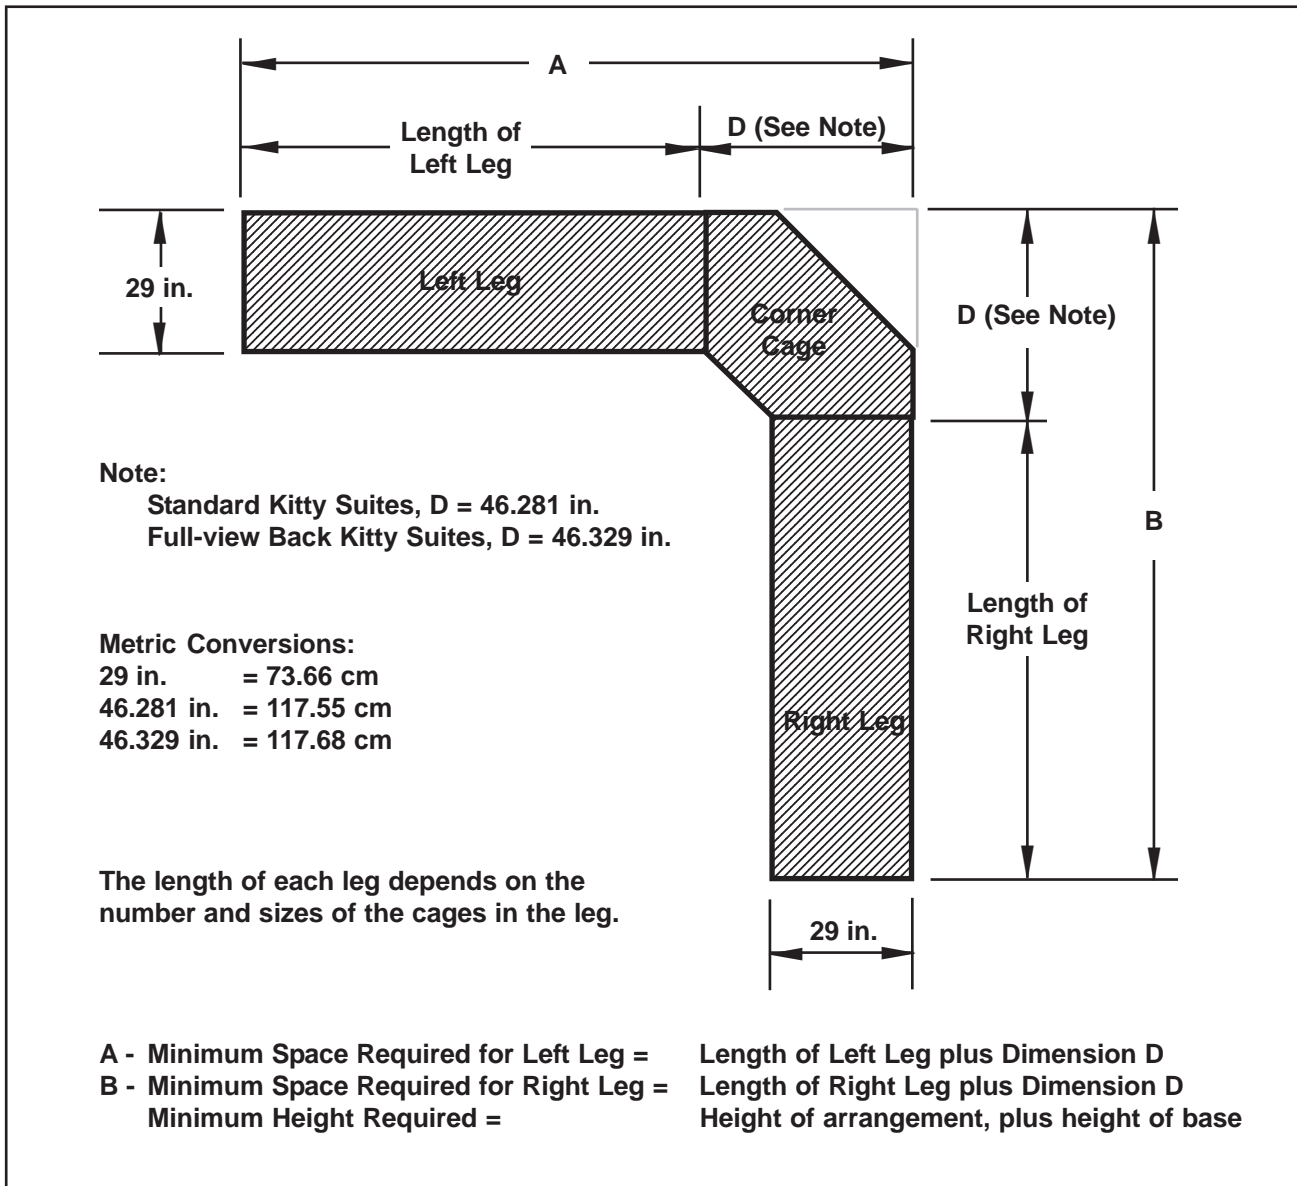

Figure 4. Top View of Minimum Space Required for a Typical L-shaped Arrangement
- L-shaped arrangements - Figure 4 on Page 10
In an L-shaped cage arrangement, the cages are set up in two separate straight lines, joined by a corner cage, to form a right angle. The legs do not have to be of equal length. The arrangement can consist of one or more tiers. Figure 4 shows the minimum space required for an L-shaped arrangement. Keep in mind that two or three extra inches above the arrangement, in addition to the minimum height, will ease installation (and later removal, if necessary).